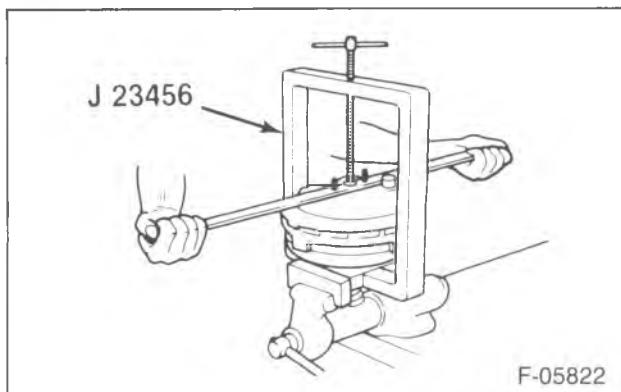

Figure 21—Unlocking and Locking Booster
1. Boot (1) and silencer (2).
2. Vacuum check valve (3) and grommet (4).
3. Front housing seal (5).
- Use J 23456 to apply force in a counter clockwise direction to unlock the housings (figure 21).
4. Return spring (9) and power piston group.
5. Power piston bearing (6) from the rear housing (7).
6. Reaction body retainer (25).
7. Piston rod (10) and reaction retainer (11).
8. Filter (12) using an awl or similar tool.
9. Power piston and pushrod assembly (16).
- Grasp the outside edge of the diaphragm support (15) and diaphragm (14). Hold the pushrod (19) down against a hard surface.
- Use a slight force or impact to dislodge the diaphragm retainer (13).
10. Diaphragm (14) from the diaphragm support (15).
- Boot (1) and silencer (2).
- Vacuum check valve (3) and grommet (4).
- Front housing seal (7).
- Unlock the front and rear housings using J 23456 (figure 21).